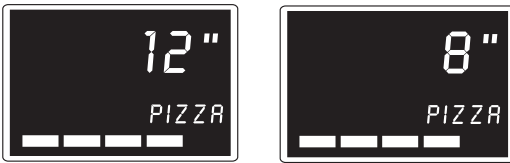

Figure 7
2. To select a Pizza program according to the size of the pizza, press the PIZZA button once if cooking a 12-inch pizza. Press the PIZZA button twice if cooking an 8-inch pizza. The default pizza setting is the 12-inch pizza, medium crust color (4 color bar) setting. (See Figure 7.)